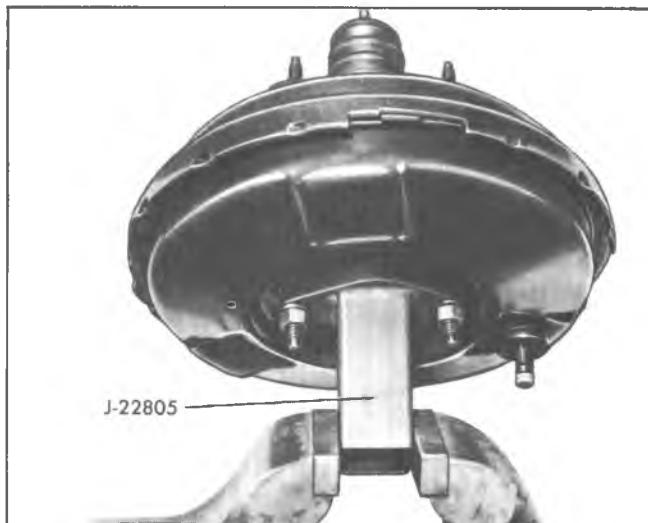

Fig. 2A-Holding Power Cylinder Using Tool J-22805
3. Attach base of Tool J-22805 to front housing with nuts and washers and draw down tight to eliminate bending or damage to studs. Clamp base in bench vise with power section up (fig. 2A).